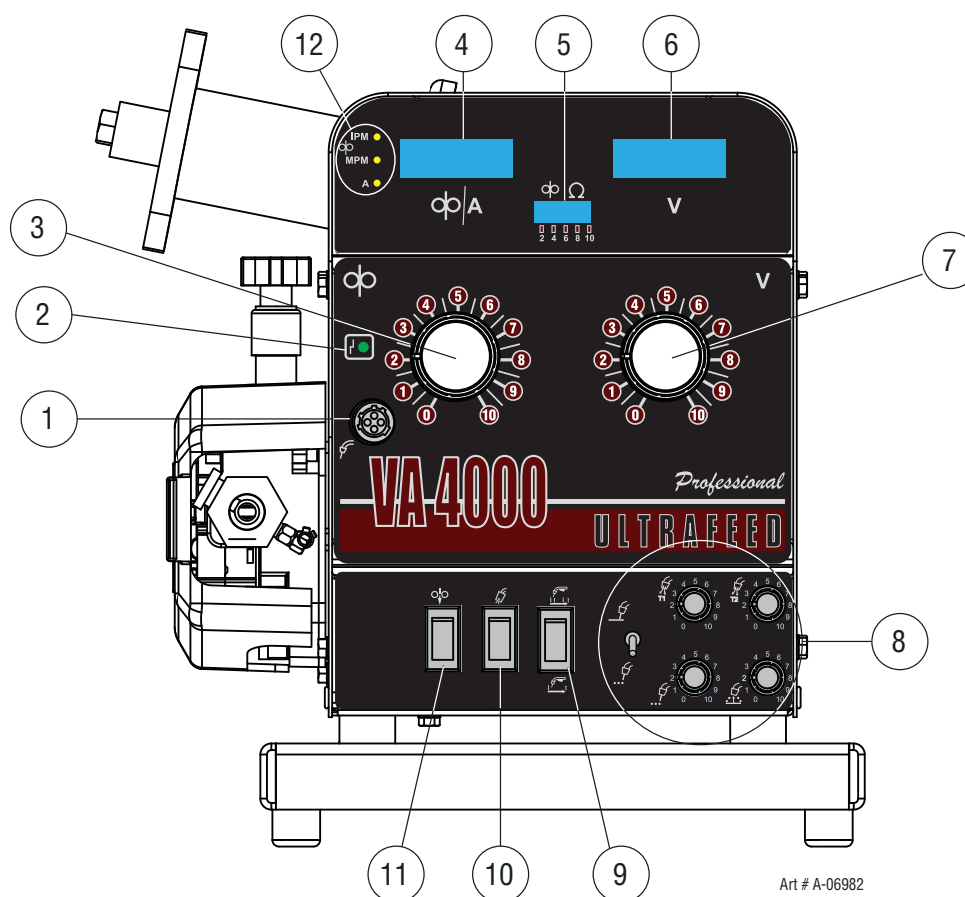

Figure 4-1: Front Panel Controls and Connections
5. Turn the welding machine and wire feeder ON, and set the wire feed speed control to midrange (Refer to Figure 4-1). Remove contact tube from welding gun. Refer to Gun Manual. Press the gun switch or INCH switch until wire feeds out past the gun nozzle. Thread the contact tube over the wire and lock into place and tighten. Cut wire off at about 1/4 inch (6 mm) from the nozzle.